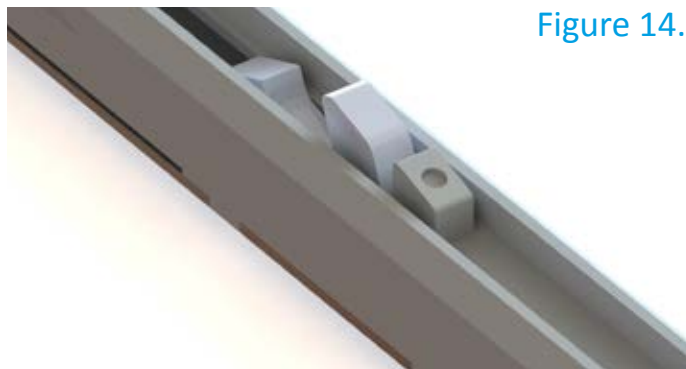

Figure 14.
1. Push the hook located in the soft closing damper into the correct position as guided in **Figure 14**.